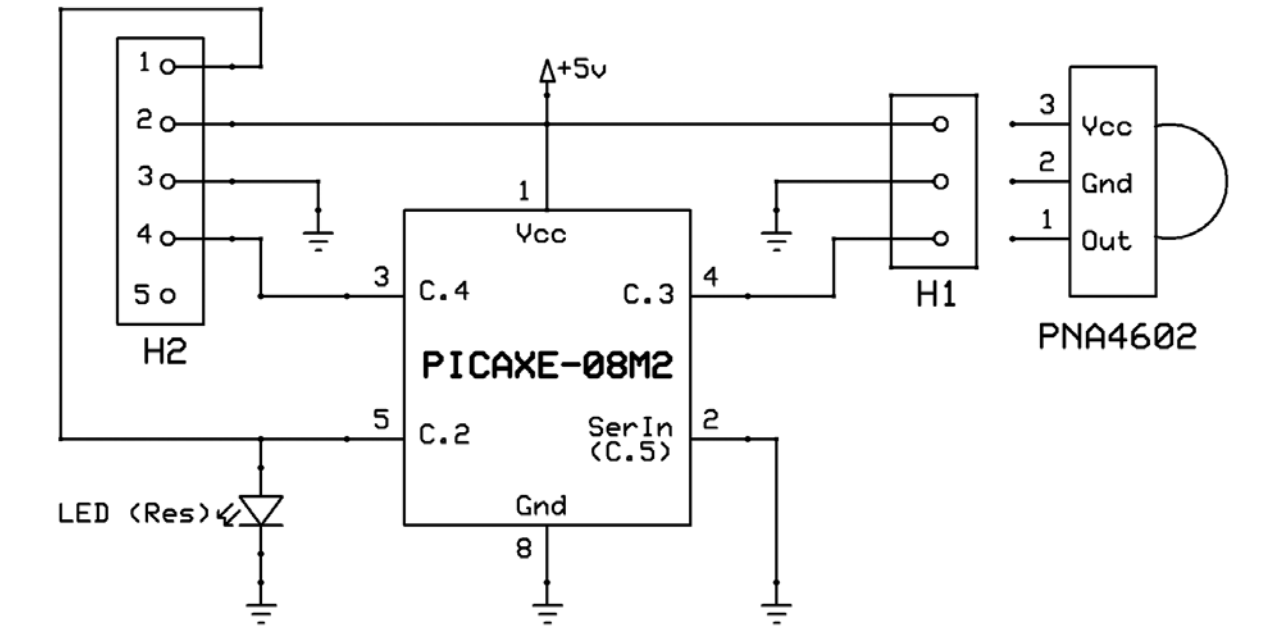
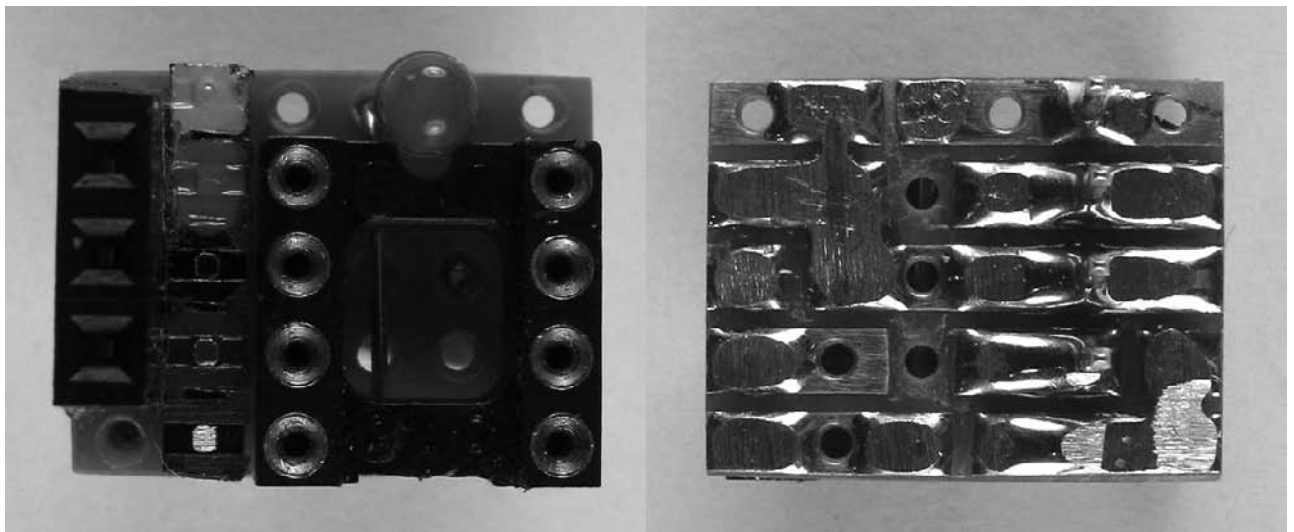

Figure 8-5 Schematic for the TV-IR input module
Figure 8-7 Composite photo of completed TV-IR module
Now that we have a fully functional design, we're ready to convert our IR input circuit to a self-contained peripheral module. As usual, we'll use a small stripboard circuit; the schematic is presented in Figure 8-5. As you can see, it's similar to the breadboard circuit we just tested, with one important exception—the serin pin is directly tied
3. Sever the traces on the bottom of the board as indicated in Figure 8-7.
Figure 8-7 is a composite photo of the top and bottom of the completed TV-IR module. In the top view, I have again painted the tops of the male header pins to remind myself of their functions (refer to Figure 8-5 for the header pin-out). If you decide to do that, don't wait until after the female